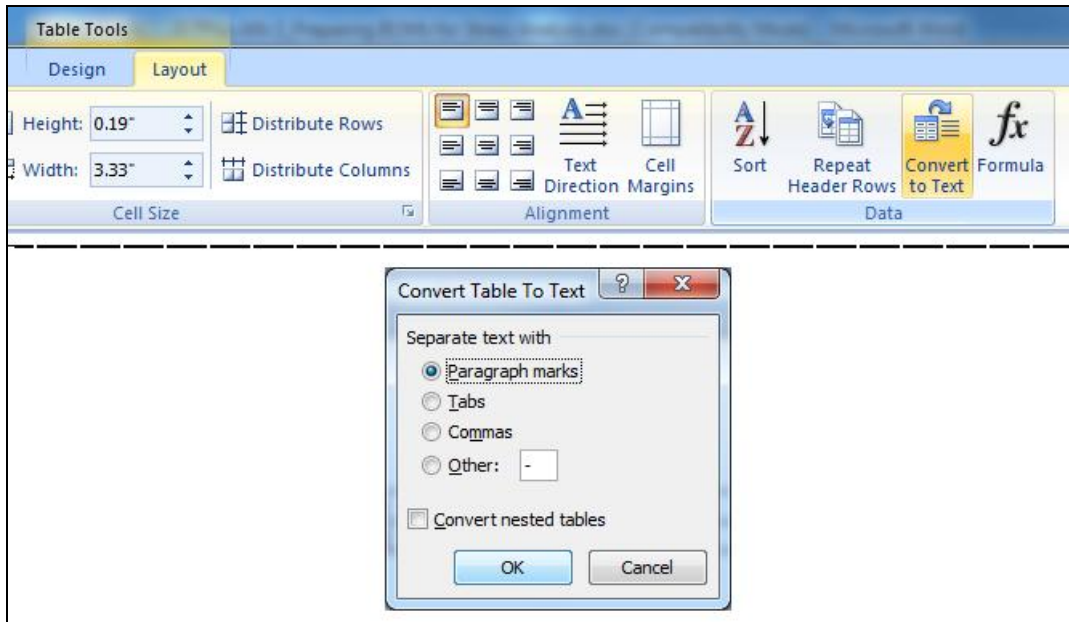

Figure 3. Converting Table to Text, using Paragraph Marks to Separate Row Data, in MS Word 2007
6. With the table selected, apply Word’s “Convert Table to Text” function. In pre-2007 versions of Word, this is found under the “Table” menu. In Office 2007 and later versions of Word, the highlighted table will bring up the **Table Tools** ribbon at the top of the screen, as in Figure 3. Select the **Layout** tab, and then select “Convert to Text” near the far right of the ribbon. A dialog box will appear; select “Paragraph marks” and click **OK**.